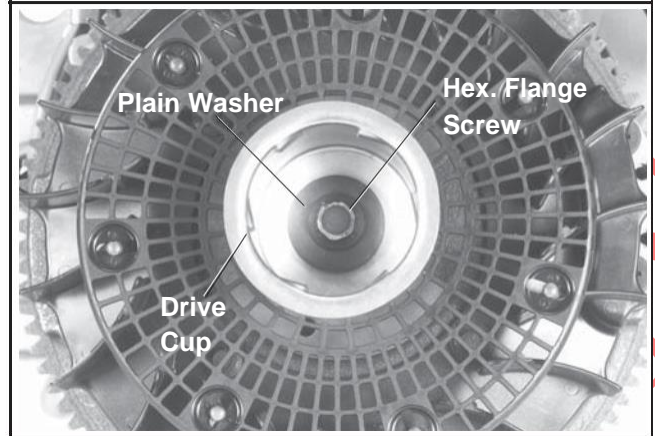

Figure 9-30. Removing Flywheel Retaining Screw and Drive Cup. (Recoil Start Models.)
1. Remove the hex. flange screw, plain washer, and drive cup. See Figures 9-30 and 9-31.